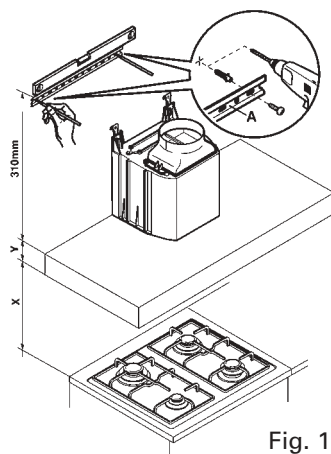

Fig. 1
- Rest the support bar against the wall (A-Fig. 1) at a height from the cooktop determined by the sum of the distance  $X+Y+310\text{mm}$ .